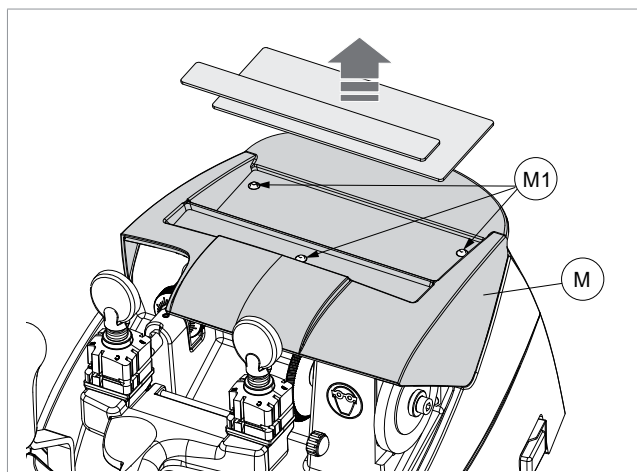

Fig. 51
- 1) Remove the two pads (Fig. 51).
- 18) Replace the top cover and secure with the 3 screws (M1) (Fig. 51).